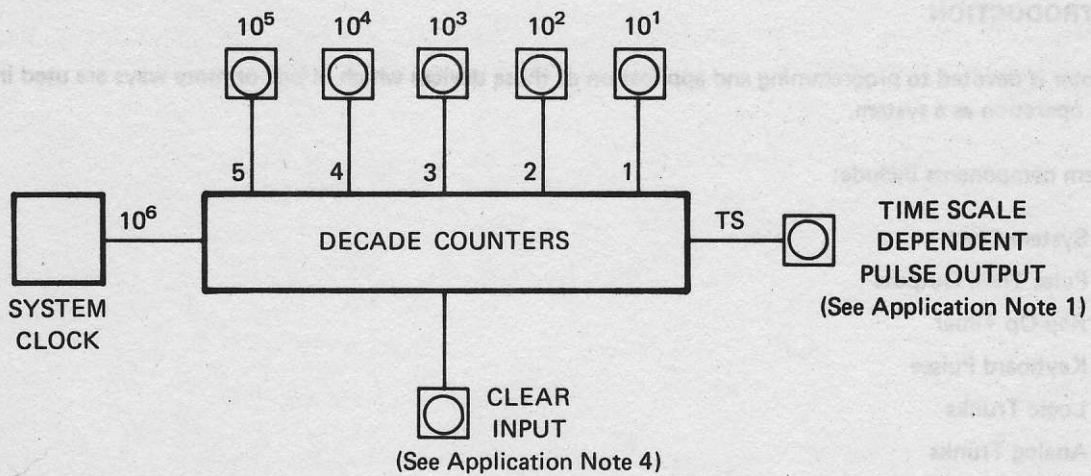

Figure 6.1 Pulse Train Outputs: Symbol and System Arrangement
As shown in Figure 6.1
- The pulse train outputs, as indicated in Figure 6.1, are generated by a series of five decade counters. These counters have a common Clear (CLR) input.